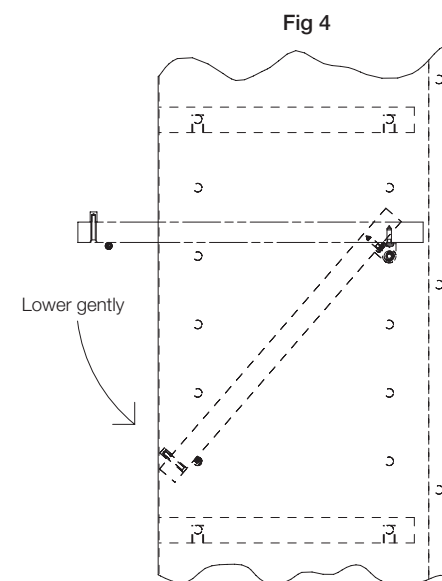

Fig 4
1.6. Finish by gently lowering the shelf to it's resting position on the shelf support. (Fig. 4)